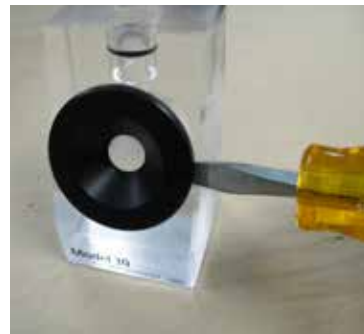

Figure 9-2, Cornea Replacement
The artificial cornea for the Calibration Verifier can be replaced if it is damaged by replacing the cornea assembly. The cornea assembly is held in place by a o-ring. To replace the cornea assembly, perform the following steps. Refer to Figure 9-2.
2. Place a medium flat-blade screwdriver into the slot on one side of the cornea assembly as indicated in Figure 9-2 and push one side of the cornea assembly away from the acrylic base.